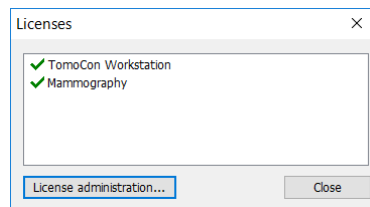

Figure 2 – Licenses dialog
2. The **Licenses** dialog (see Figure 2) listing the all installed licenses including currently invalid will be displayed. To install new or remove existing licenses, click the **License administration...** button and follow the steps outlined in the previous section.